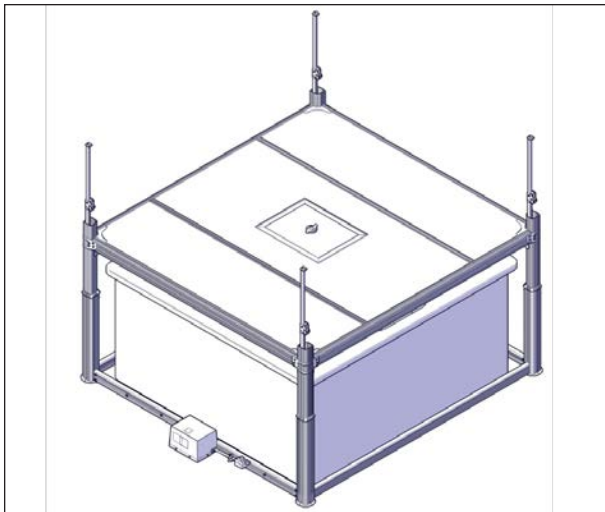

FIGURE 90: JACKS RAISING
7. Raise the jacks until they reach the maximum height see Figure 90.